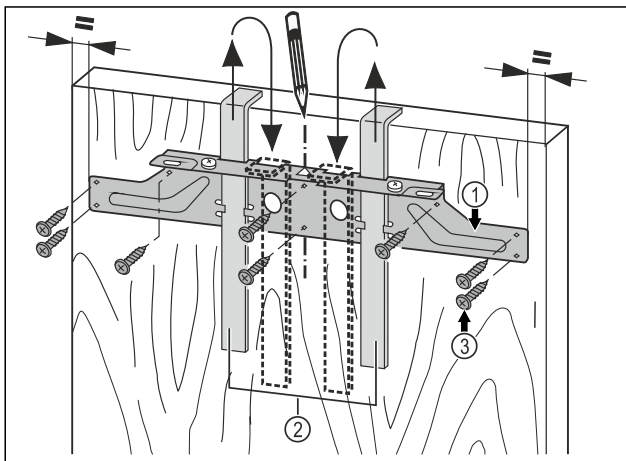

Fig. 19
- Hang the fastening bar Fig. 19 (1) with the mounting aids on the inside of the unit door Fig. 19 (2).
- Align the fastening bar Fig. 19 (1) in the centre of the door. The distances to the outer edge are the same on the left and right.
- Tighten the mounting bar Fig. 19 (1) with at least 6 screws Fig. 19 (3).
- Screw the mounting bar Fig. 19 (1) to the edge with 4 screws Fig. 19 (3).
- Pull the assembly devices Fig. 19 (2) upwards and push them, at an angle, into the receiving openings.